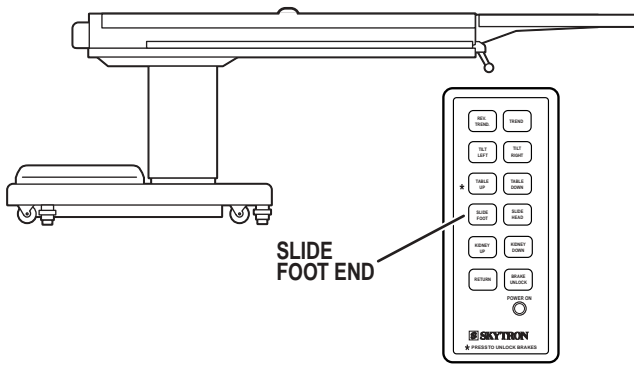

Figure 2-8. Slide-Foot Function
f. Slide Function. To move the table top toward the foot end of the table, push the SLIDE-FOOT button. See figure 2-8.